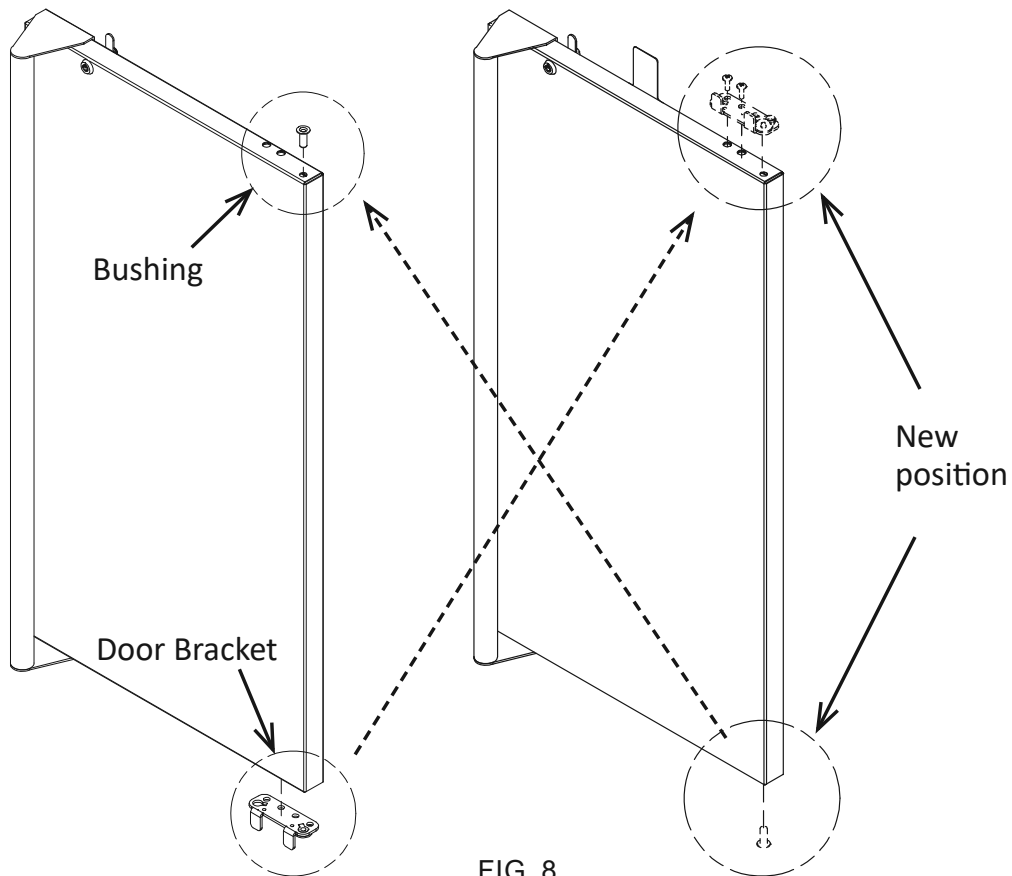

FIG. 8
Step 6. Next move the Bushing to the lower part of the door, and the Door Bracket to the upper part of the door. See figure 8.